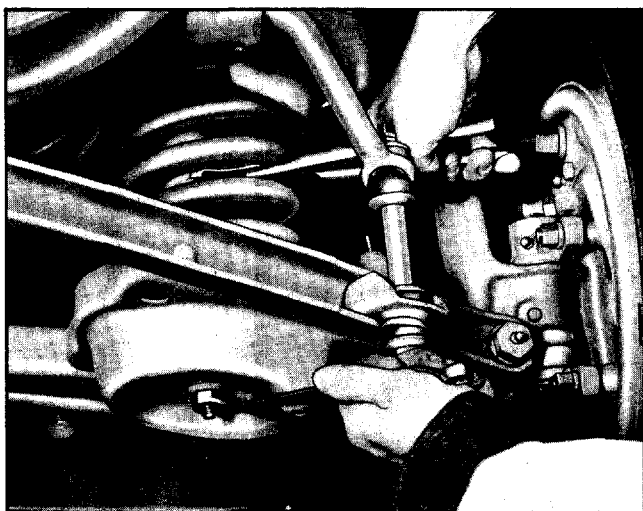

Fig. 3-11 Holding Shock Absorber to Loosen or Tighten Retaining Nuts
2. Loosen and remove two nuts from bottom stud on shock absorber. **NOTE:** Shock absorber must not turn while loosening nuts. If necessary, use water pump pliers inserted through coils of front spring to hold shock absorber reservoir tube from turning (Fig. 3-11). Spring coils can be pried apart with large screw driver or similar tool to provide sufficient space to insert pliers.